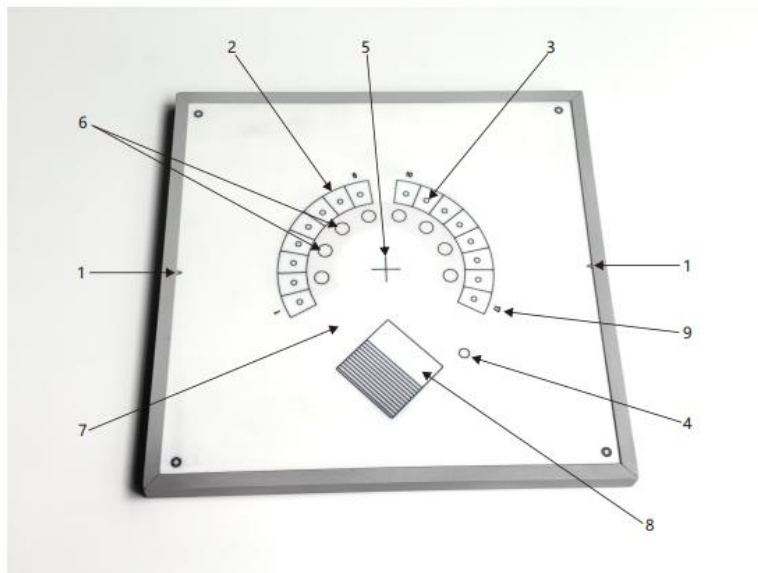

Figure A.1 Diagram of various structural components of the multi-functional test card
The test mold used in the imaging and photography modes consists of an attenuating body and a multifunctional test card (see Figure A.1), which can be used for tests such as dynamic range, spatial resolution, and low contrast resolution.
b) The measurement copper step wedge for the dynamic range (see No. 2 in Figure A.1), with an outer diameter of 150 mm and an inner diameter of 110 mm. It consists of 17 steps, and the copper thickness of each step is specified in Table A.1. In the table, the copper thickness includes the thickness of the base copper plate (1.5 mm), and steps 1 to 8 are thinner than the base copper plate, while steps 10 to 17 are thicker than the base copper plate.
d) Eight low-contrast object components, with a diameter of 10 mm (see Figure A.1, item 6), are located in a uniform internal area (see Figure A.1, item 7), used to test low-contrast resolution. The depth of the holes is shown in Table A.3.
e) A group of 16 detail contrast objects with a diameter of 4 mm (see Figure A.1, item 3), with a depth of 2.5 mm in PMMA. These details are located on each step of the copper step wedge (see Figure A.1, item 2), and are used to test the contrast resolution in each step of the copper step wedge.
f) Tube voltage inspection area: A rough inspection of the radiation quality is conducted using a 0.78 mm thick metal ytterbium sheet (Ytterbium) (see Figure A.1, item 4). If a 25 mm aluminum attenuator is used, when the X-ray tube voltage is greater than approximately 75 kV, this area appears white in the image; when the X-ray tube voltage is less than approximately 70 kV, this area appears black in the image.